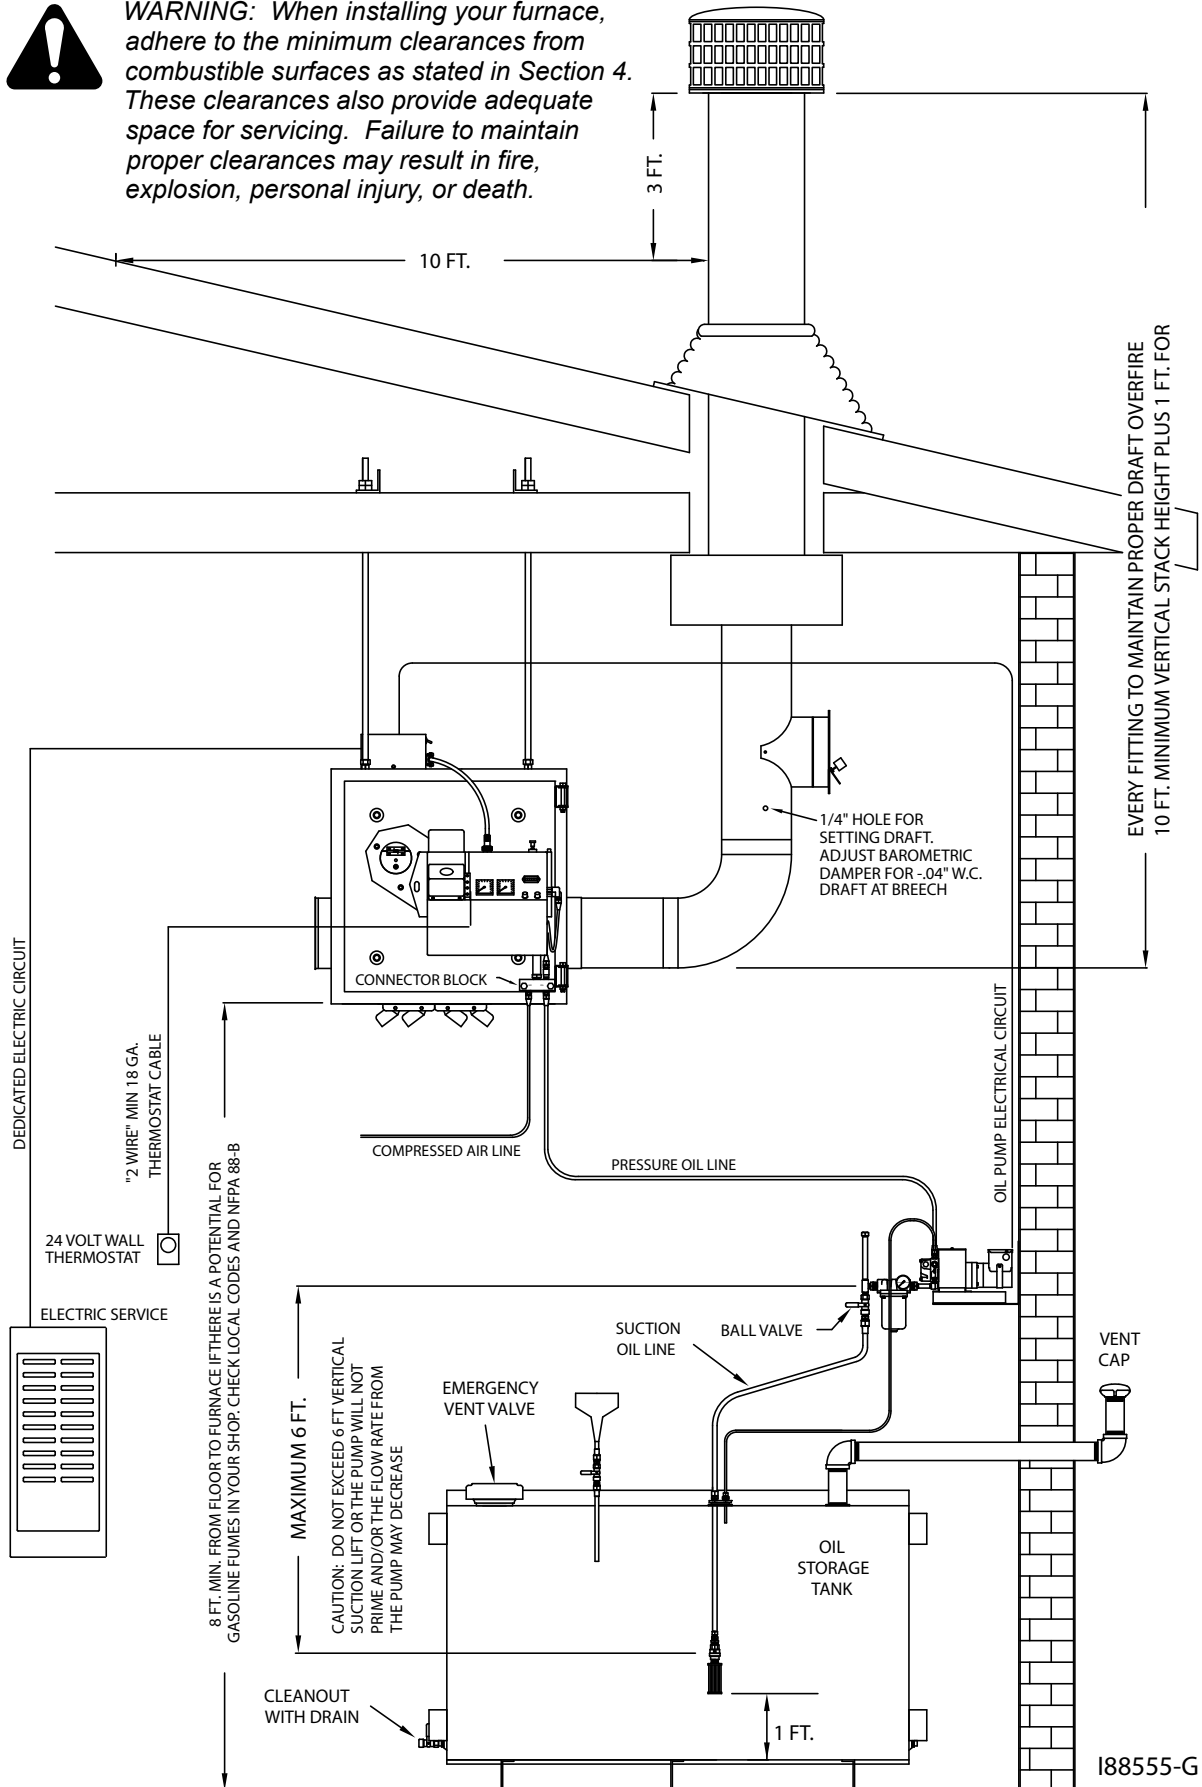

Figure 4A - Typical CB-1750/2500/3250 Furnace Installation
Clean Burn recommends that you review all procedures before beginning installation, paying careful attention to safety information statements. **Figure 4A** provides a general overview of a typical furnace installation and should be reviewed closely before proceeding.
- For optimal system functioning, Clean Burn Recommends inside tank installations as shown in Figures 4A, 4F, and 4J.
- Carefully review the oil tank and pump installation details as shown in Figures 4A, 4F, and 4J. Pertinent information also supplied with the metering pump and oil line installation procedures (following in Sec. 4).